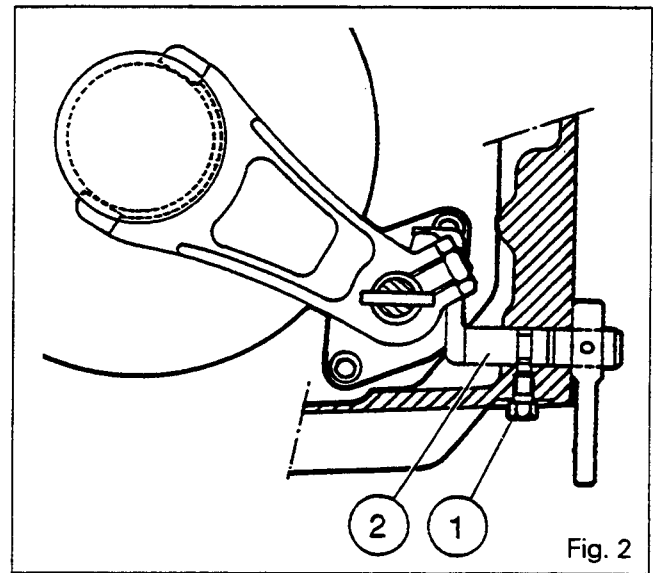

Fig. 2
- 17. Disconnect the creeper gear control (if fitted) and then remove the bolt (1) and pull the rod (2) towards the outside to release the finger from the fork (Fig. 2).